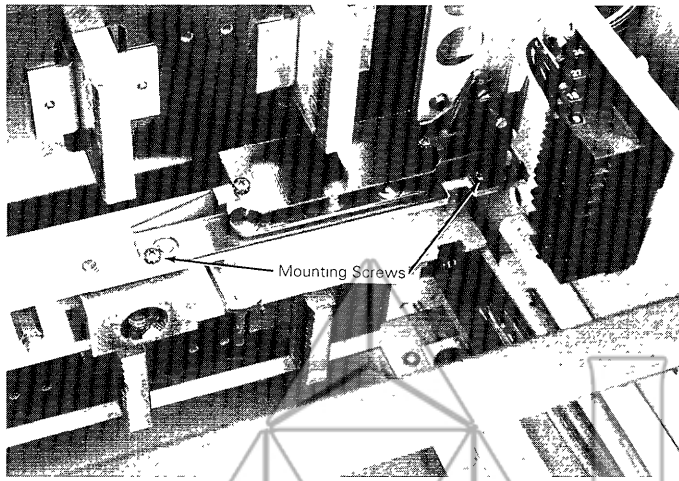

Figure 6. Interlock mechanism installed in the compartment.
1. Install the units to the breaker mounting supports as shown in Figure 6. Attach with two Philips-head #10-32 screws in each compartment, tightened to 15 in-lb. If the breakers are mounted one above the other (vertical connection), the type A unit must be installed in the upper compartment and the type B in the lower. If the breakers are mounted side by side (horizontal connection), the type A unit must be installed in the right compartment and the type B in the left.